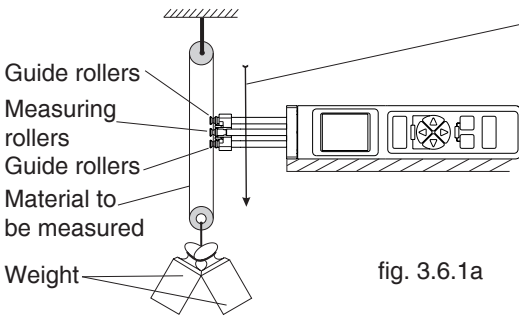
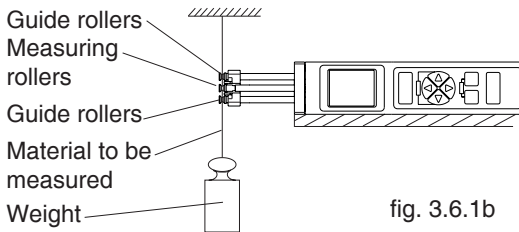

fig. 3.6.1a
fig. 3.6.1b
The tension meter has been calibrated dynamic on material 1 according our SCHMIDT procedure for a vertical material path and cannot be deleted or overwritten. The material and diameter is given in chapter 2. Factory calibrations using customer supplied materials follow the same procedure. In this case, however, the calibration on Schmidt material 1 is omitted. Fig. 3.6.1a shows a measuring setup for the dynamic calibration, while fig. 3.6.1b shows a measuring setup for the static calibration.
**1** The tension meter has been calibrated dynamically (fig. 3.6.1a) according to the SCHMIDT factory procedure. Therefore, differences may occur between static and dynamic readings.